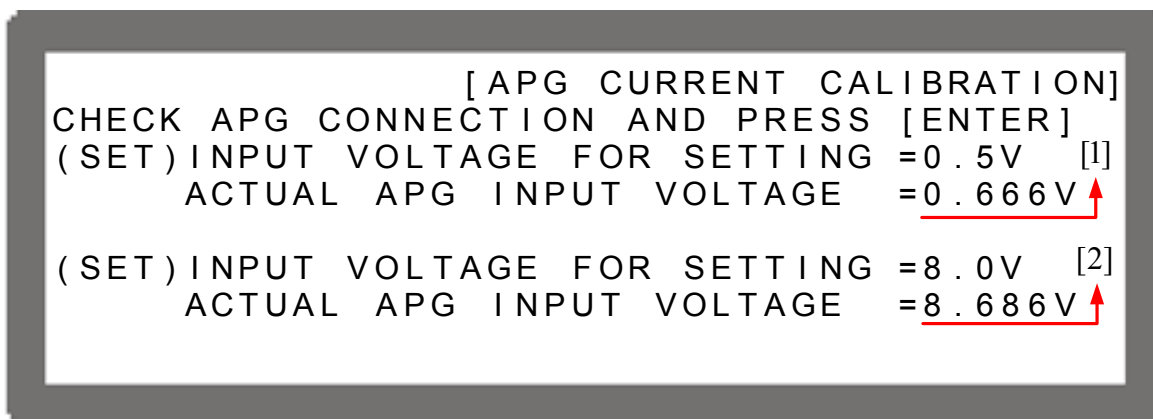

Figure 3-125
- (3) When in the APG Current Calibration pages and the connection is correct, press “” to confirm.
- (4) It will ask users to input about 0.5V voltage signal (Pin 4). The cursor stops at position [1] as Figure 3-125 shows after pressed “” in the above step. Adjust the Power Supply to $0.5V \pm 0.2V$ and use DVM1 to measure the reading of Power Supply. Input the voltage (3 digits after decimal point) read by DVM 1 to position [1] and press “” to confirm.
- (5) Press “” again will ask users to input about 8.0V voltage signal (Pin 4). The cursor stops at position [2] as Figure 3-125 shows after pressed “” in the above step. Adjust the Power Supply to $8V \pm 0.2V$ and use DVM1 to measure the reading of Power Supply. Input the voltage (3 digits after decimal point) read by DVM 1 to position [2] and press “” to confirm.